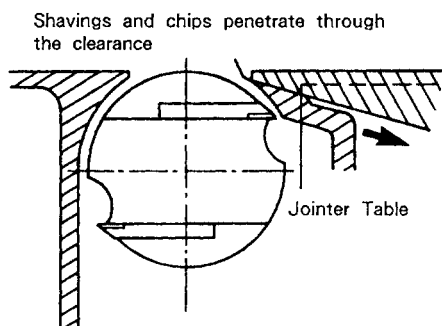

Fig. 28
* Turn the Jointer Table adjustment knob to lower the base to the maximum limit, and remove shavings and chips (Fig. 28).